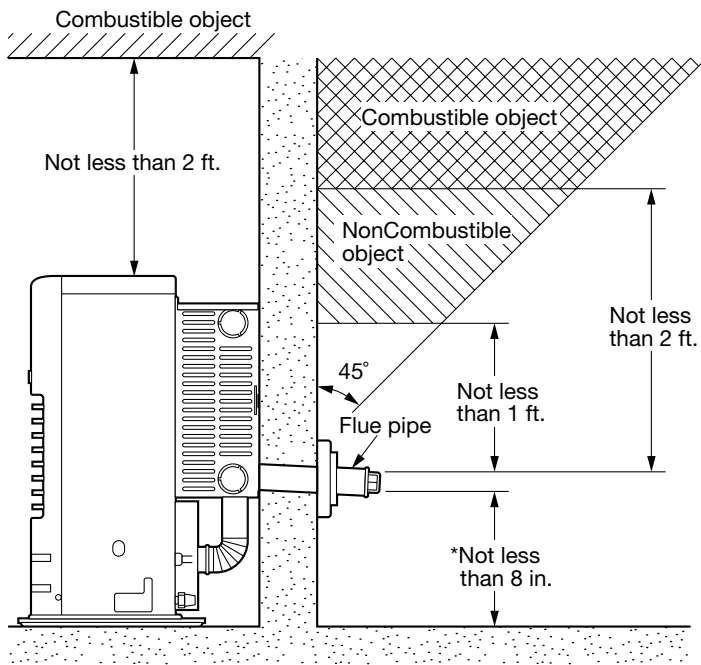

Fig. 2
①	Adjustable Exhaust Pipe Max. 39- ³ / ₈ - Min. 22- ⁷ / ₁₆ inch	1
②	Intake Pipe (40 inch)	1
③	Insulating cloth cover (40 inch)	1
④	Pipe Holder	2
⑤	Pipe Support Hardware	2 sets
⑥	L-Shaped Exhaust Joint	1
When using the "Extension pipe (M)" extension kit, the distance between the heater exhaust pipe connection and the flue pipe connection must be at least 25-⁵/₈ inch but no more than 42-¹/₂ inch. (See Figure 2 for reference.)
2. Make sure that the outside area to where the flue pipe will reach is clear of any objects. (See Fig. 2 & 3)
CAUTION! The standard flue pipe installation, as shown in Fig. 2, is for wall thickness from 4 in. to 9 in. ONLY.